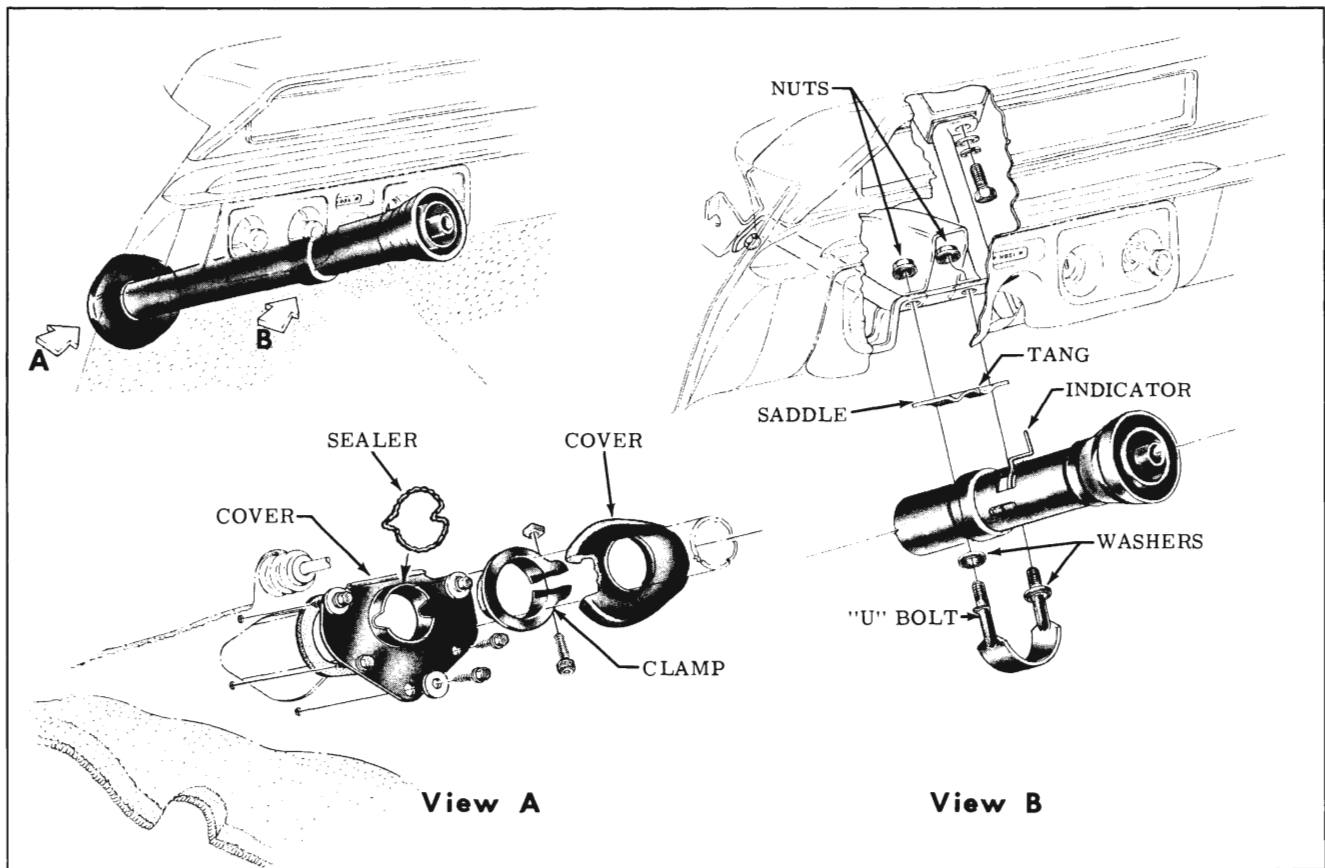

Fig. 4-291 Steering Column Installation
4. Remove cover to floor pan attaching screws. (Fig. 4-291)
5. Remove mast jacket to instrument panel "U" bolt clamp, Fig. 4-291, and remove steering column assembly.
1. Place column assembly in position with tang on saddle, engaged in column. (Fig. 4-291)